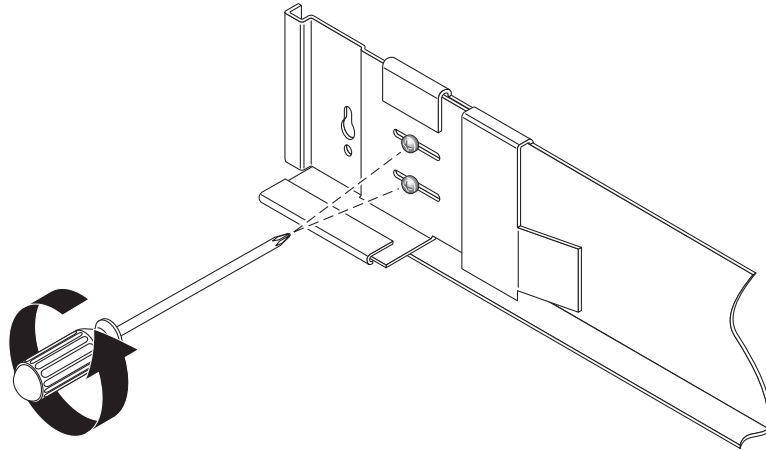

FIGURE 2-7 Loosening the Rail Screws to Adjust the Rail Length
1. Using the No. 2 Phillips screwdriver, loosen the side-rail screws and adjust each rail to its maximum length (FIGURE 2-7).